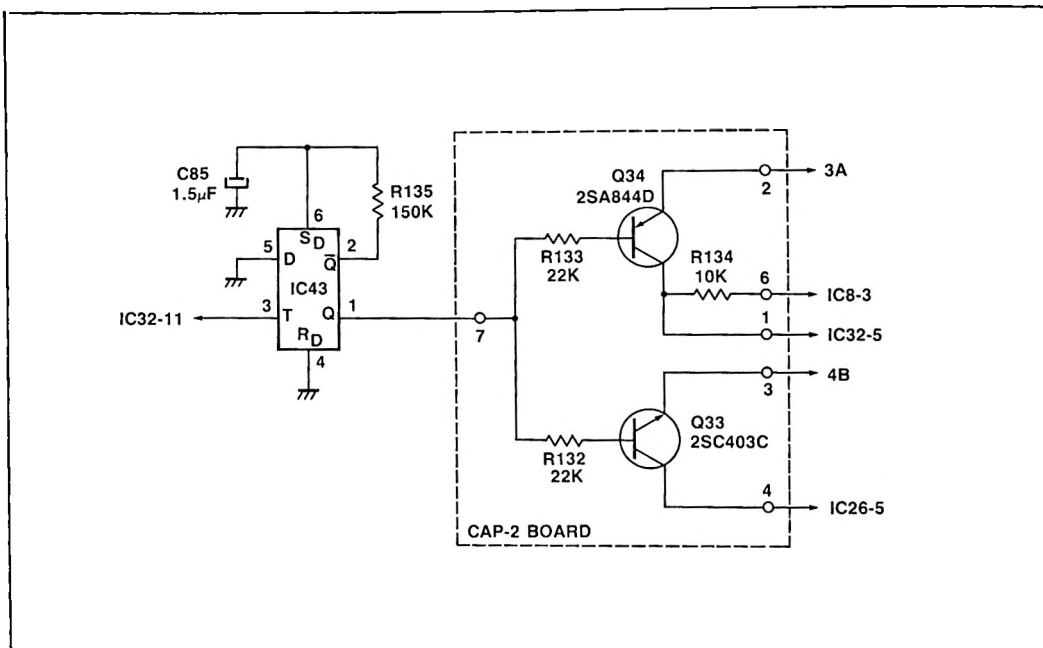

Figure 1
The problem can be avoided by adding a new circuit to the Capstan Board. (See Figure 1.) This circuit will enable the "Still Det" circuit (and thus the "Still Voltage Gen" circuit), and temporarily inhibit the "Step Trigger" input to the board. This modification is applicable to serial numbers 10,300 and lower.
1. Mount the components and jumper wires on the new board as indicated in Figures 1 and 2.